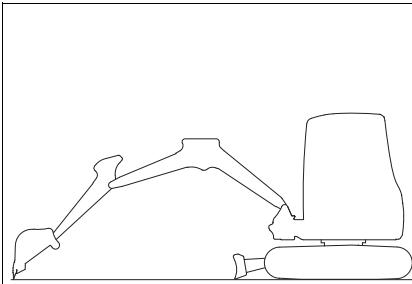

Fig. 318
2. Position the arm system straight ahead at the center of the vehicle (Fig. 318).